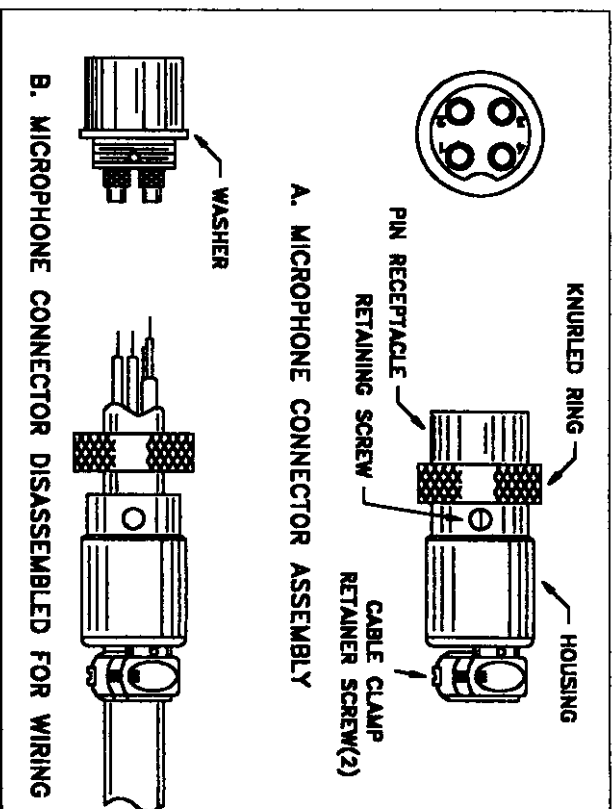

Fig. 2. Microphone plug wiring
4. Feed the microphone cable through the housing, knurled ring and washer as shown Figure 2.
Be sure that the housing and the knurled ring of Figure 2 are pushed back onto the microphone cable before starting to solder. If the washer is not captive to the pin receptacle body, make sure that it is placed on the threaded portion of the pin receptacle body before soldering.